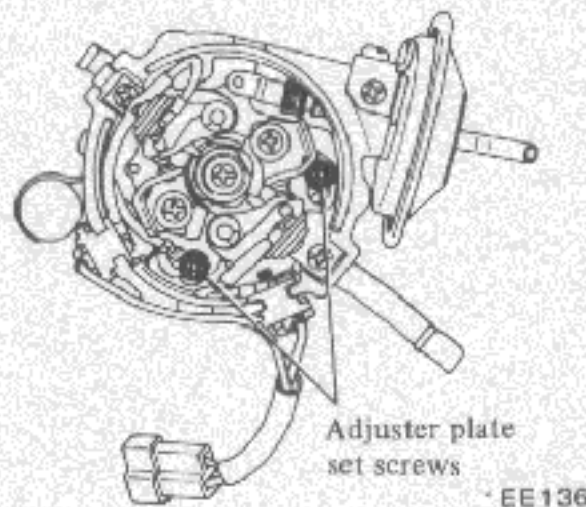

Fig. ET-25 Adjuster plate set screws
- (1) Referring to Figure ET-25, turn out adjuster plate set screw 1/2 to 2 turns. The screw is located at contact set on retard side.
- (2) Using a notch in adjuster plate as a hold, turn adjuster plate as required until correct delay is obtained. Ignition is retarded when plate is turned counterclockwise.